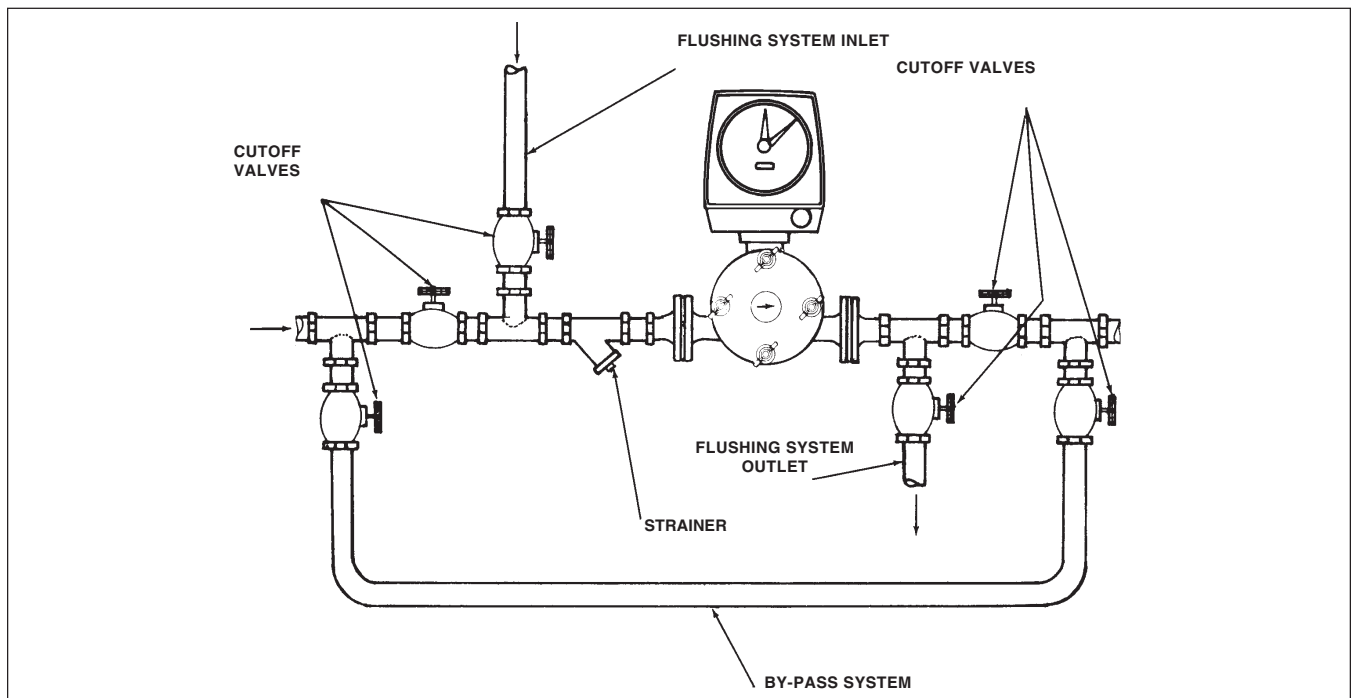

Figure 2-1.
5. In metering applications involving abrasive materials, slurries, or liquids that may leave a residue or buildup of deposits, a meter by-pass and flushing system should be incorporated into the facility piping installation to permit periodic clean-out of the meter. Figure 2-1 illustrates a typical meter installation incorporating a bypass and flushing system.
NOTE: Always install meter in such a way that round cover is on a vertical plane, as shown on Figure 2-1.
If the facility piping arrangement includes a meter bypass and flushing system (see Figure 2-1 in Section 2 of this manual), shut off fluid flow to the meter and flush interior of meter housing with clean water to remove any buildup of deposits or corrosion. If a bypass and flushing system